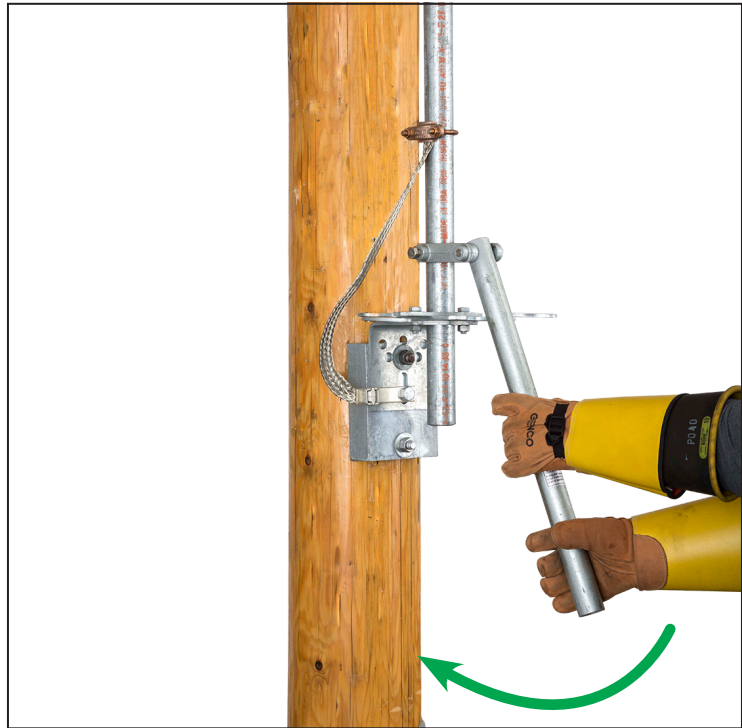

Figure 49. Swing the operating handle rapidly.
STEP 43. Swing the handle rapidly to the fully **Open** or fully **Closed** position. See Figure 49.